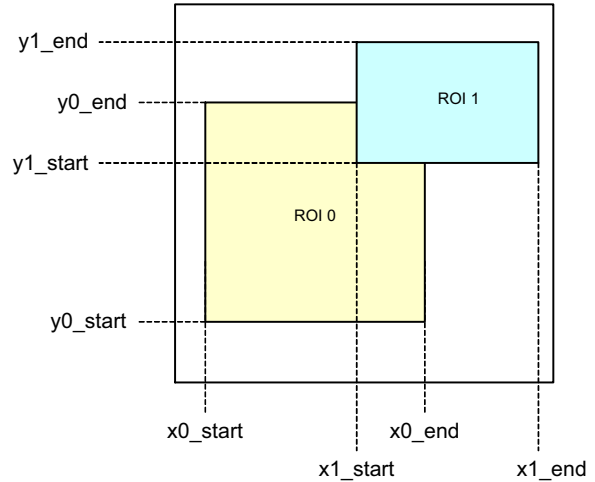

Figure 27. Overlapping Multiple Window Configuration
- Up to eight windows can be defined, possibly (partially) overlapping, as illustrated in Figure 27.